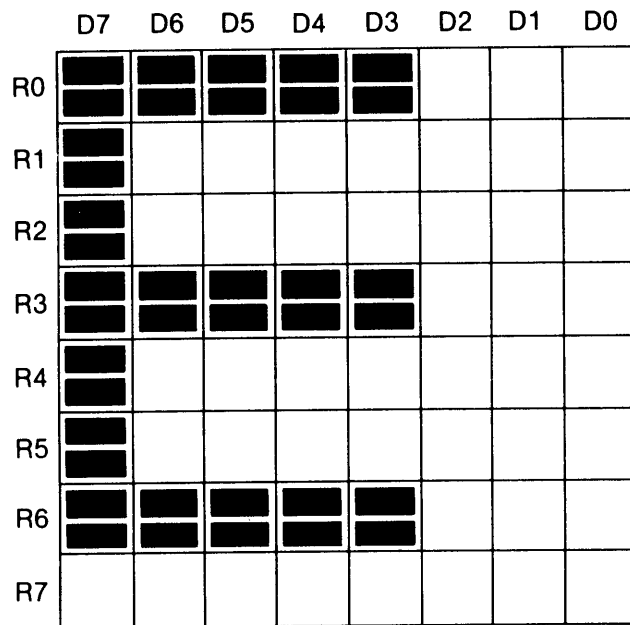

Fig.2
Each character in the Character Generator, IC41, is stored as an 8x8 matrix of white and black dots. White is stored as a 'One', The characters appear on the outputs of IC41 (D0 - D7) one row at a time, see fig 2. Here an 'E' is being displayed on one of the 16 lines of text on the TV screen. C8, C9 and C10 from the counter chain determine which row (R0 - R7) is being output at any time. The sequence of events is as follows. C1 - C6, C11 - C14 contain an address of a location in VDURAM and hence of some character on the screen. The contents of this location (8 bits in parallel) are fed to IC41 which then outputs (in parallel) the 1's and 0's (white and black dots) of one row of the character along D7 - D0. Here, five 1's and three 0's are output to form the top row of the 'E'. IC42 serialises this parallel information at 8 MHz, and sends it out in a stream to IC70 to be mixed with TV sync information etc. and displayed along a TV line as the electron beam strobescrosses the TV screen.
This takes 1us and each successive 1us sees IC42 loaded with another character-row for the same treatment — (LD) is fed from CO at 1 MHz via a monostable (half of IC71) to give a short negative going pulse, and (CLK) is at 8 MHz. This is the "Dot" clock — so named as each cycle displays one of the 8 dots of a character on the screen. After the top row of the "E" has been displayed, the top row of the next character on that line must be fetched. Again, C8, C9, C10 will not change but C1 - C6 will, hence selecting the next VDURAM location, and so on until C1 - C6 have displayed one row of 64 characters. Some of these are lost at the ends of the line as the Dot clock is only at 8 MHz. When C1 - C6 have finished rippling through, C7 changes and the whole is repeated. C6 synchronises the TV line (at 64us intervals) and thus starts a new line via IC65 on its downward edge. C7 is not used in the process and thus C1 - C6 must count through twice before C8, 9, 10 increment to a new row of the character, this causes each row of dots to occupy two TV lines as shown in Fig 2.